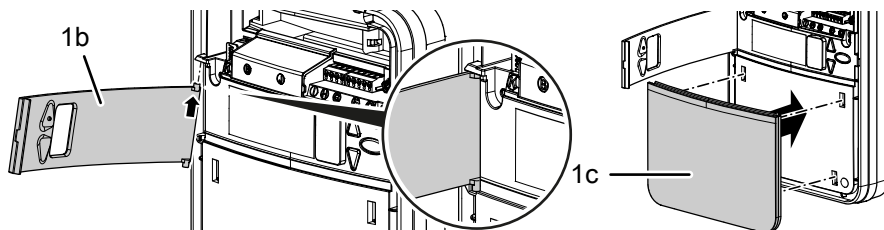

Fig. 7: Assembly of the service flap
Place the sliding block (19) on the rail profile, push it into the rear opening on the motor head (2) and fasten it with the screw (14) (Fig. 7).